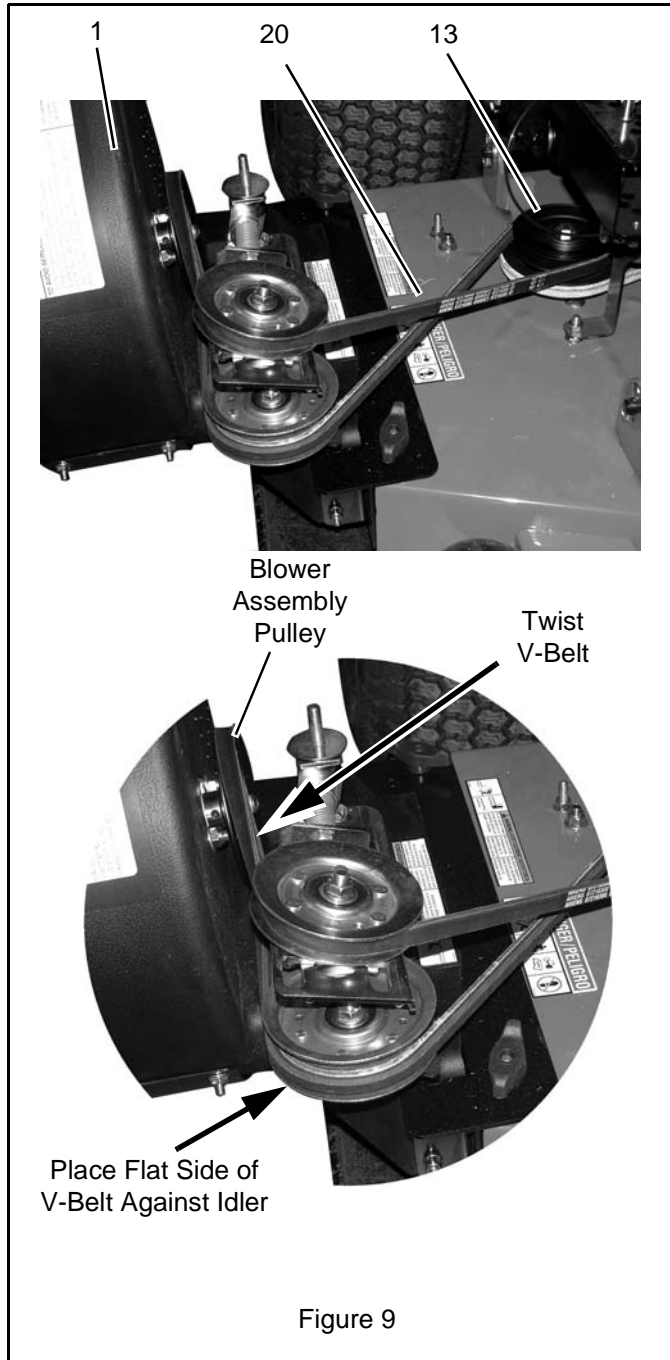

Figure 9
### Install V-Belt (Figure 9)
**NOTE:** Three V-belts (item 20) are supplied with the bagger kit:
1. Install V-belt (item 20) on mower deck and blower and idler assembly pulley as shown in figure 9.
5. Remove V-Belt (see figure 9 on page 13).